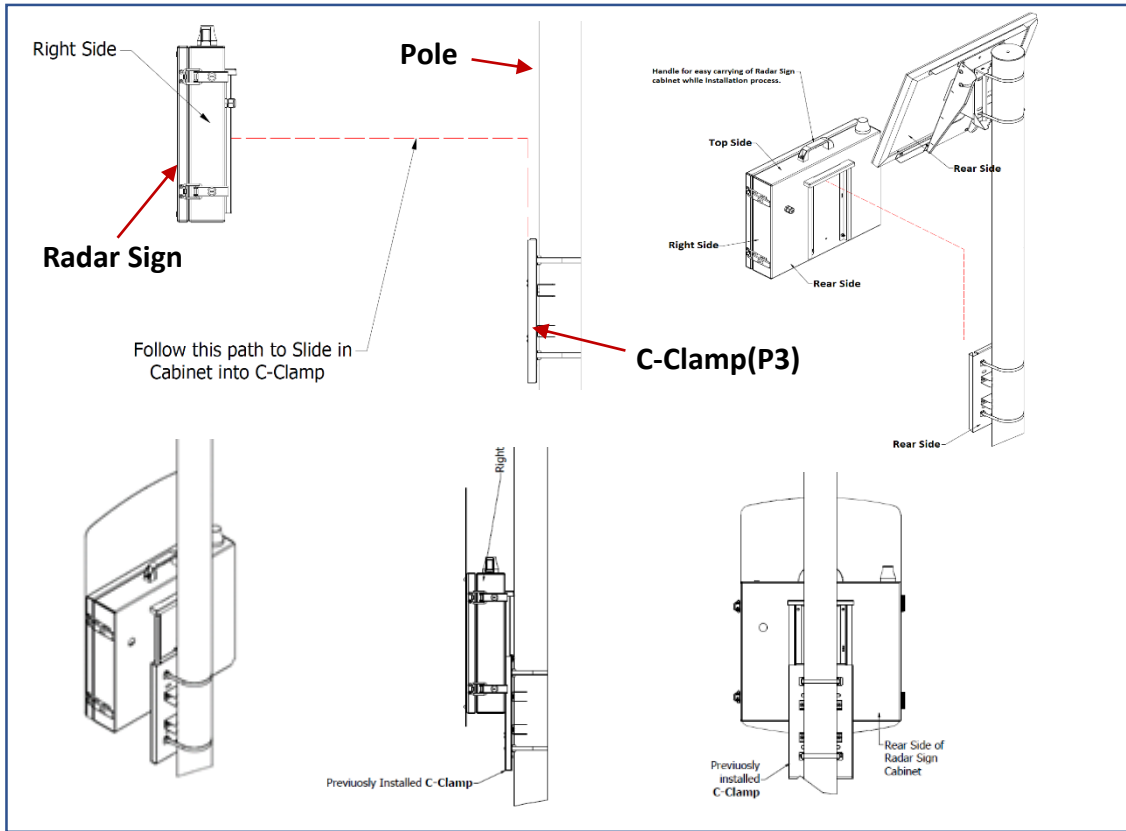

Fig.11
STEP 5: Slide in the **Radar Sign** into **C-Clamp(P3)**. **Fig.11**